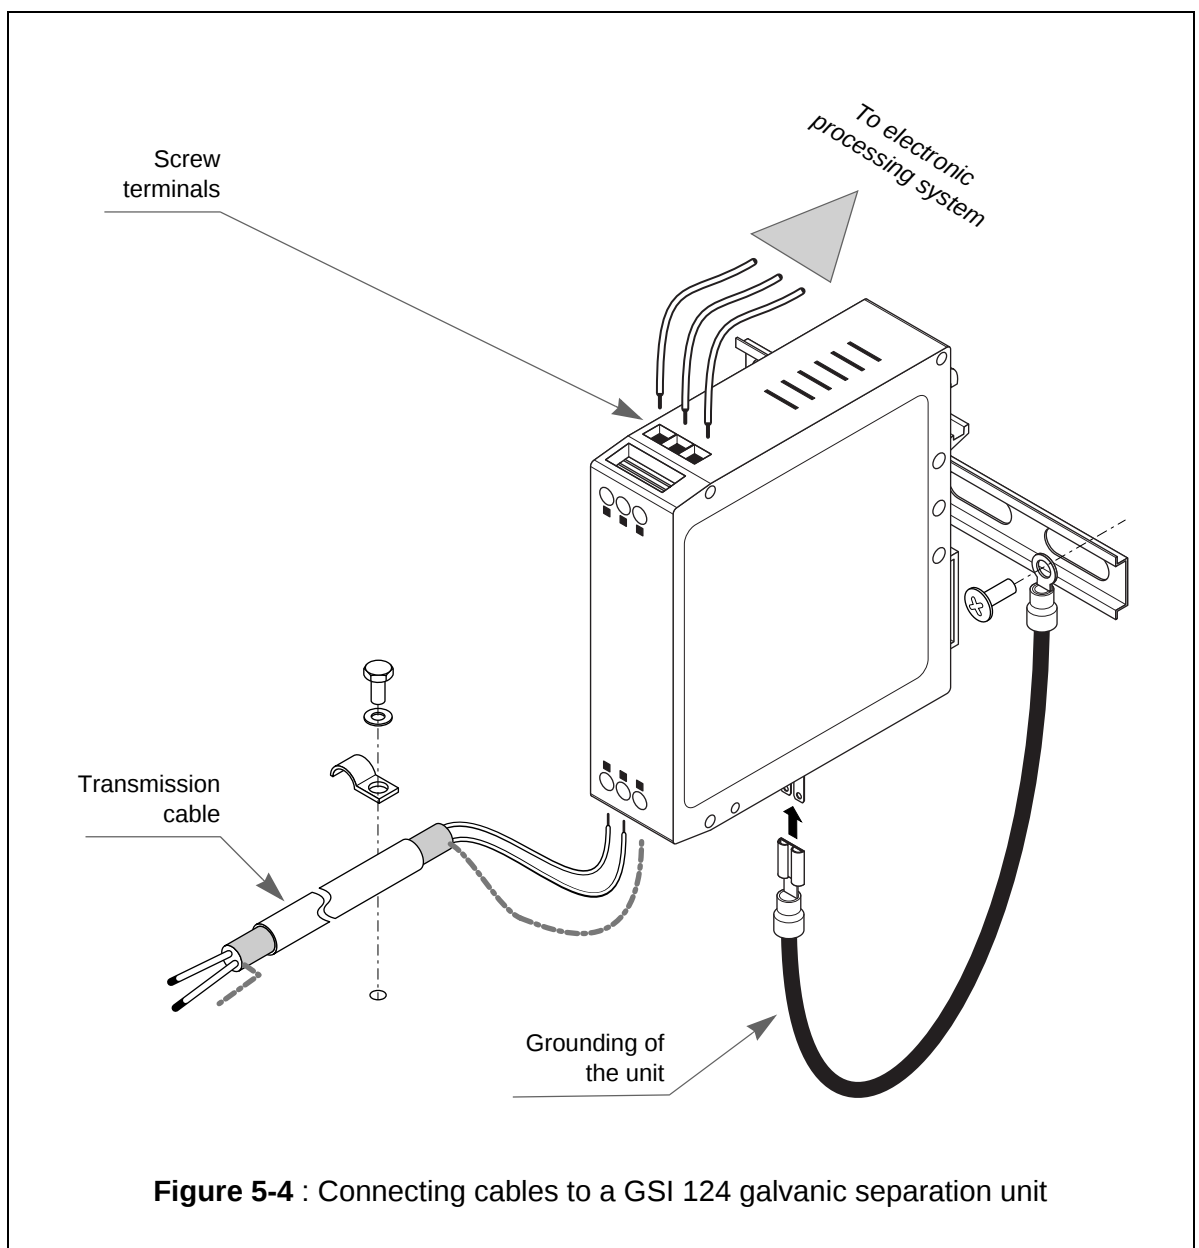

Figure 5-4 : Connecting cables to a GSI 124 galvanic separation unit
The transmission cable (from the signal conditioner) and the connecting cable to the monitoring electronics are both connected to the GSI 124 using the screw terminals provided on the unit (see Figure 5-4). There are 3 screw terminals for the transmission cable (labelled "SHIELD", "-" and "+") and 3 for the connecting cable (labelled "+24V", "0V" and "OUT").
NOTE 2 : The unit **MUST BE GROUNDED** to the rail on which it is fixed. Refer to the illustrations Figure 5-4 below, Figure 6-1, page 6.2 and Figure 6-2, page 6.3.
- 8- Install the grounding of the unit as illustrated on Figure 5-4.